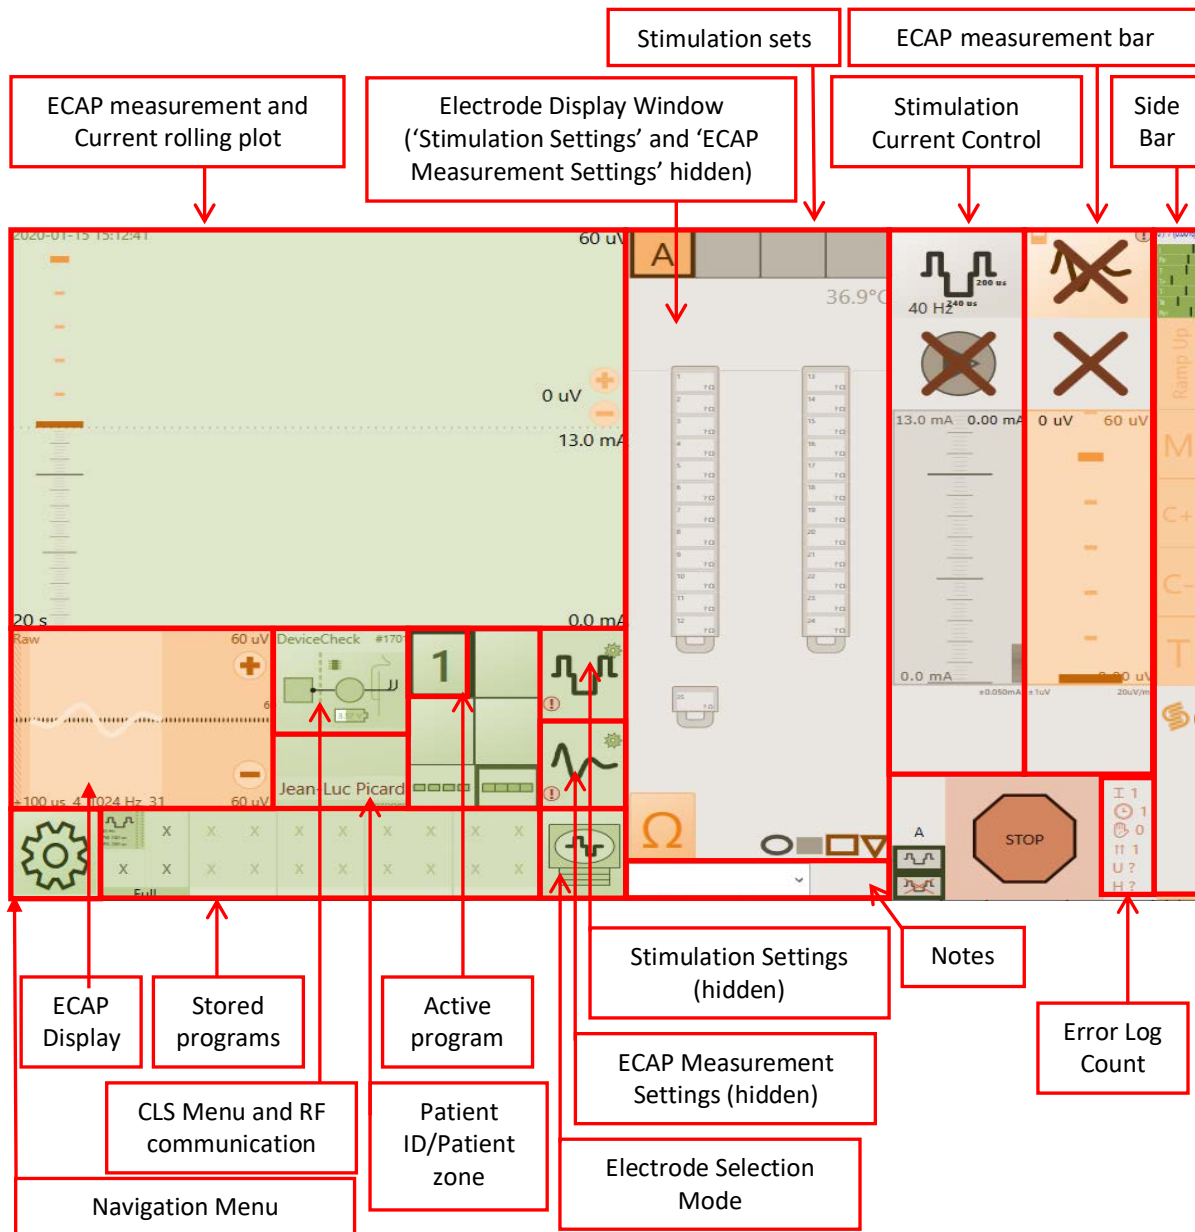

Figure 6.2: Functional layout of the CPA main screen.
4. Position the CST near the stimulator and double-touch the Evoke Clinical Programming Application (CPA) icon  to start the CPA (see Figure 6.2 for the main screen layout).
1. Check that the time and date on the CI are correct (top left corner of CPA screen, Figure 6.2). Refer to the CI instructions (see Section 5.1 for link) to change the time and date.
2. Change the *Electrode Selection Mode* icon (see Figure 6.2) until the *Automatic Electrode Selection* icon  is displayed.